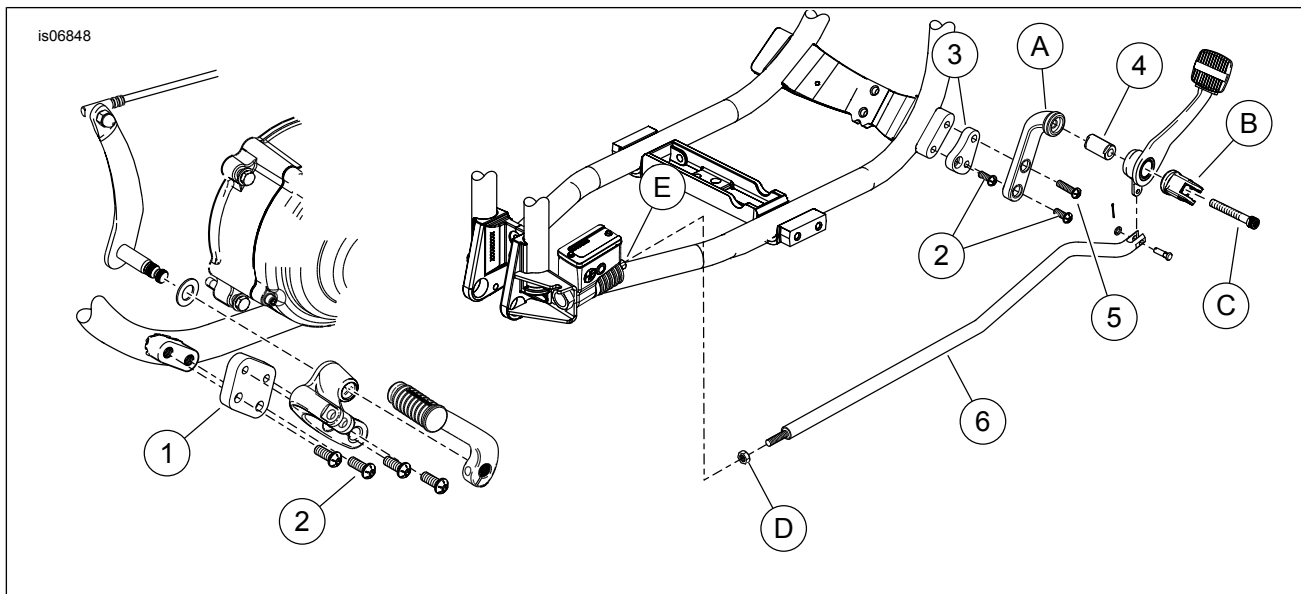

Figure 1. Service Parts: Reduced Reach Conversion Kit
See Figure 1 and Table 1.
See Figure 1. The reduced reach plate (1) is installed between the shifter bracket and frame.
3. Position the reduced reach plate (1) on the frame where the shifter bracket was mounted with the tapped holes toward the rear and the counter bores facing out. Secure using two **new** screws (2) and tighten to 41–47 N·m (30–35 ft-lbs).
4. Install the shifter bracket onto the reduced reach plate using two **new** screws (2). Tighten to 41–47 N·m (30–35 ft-lbs).
2. See Figure 1. Loosen the brake rod jam nut (D) at the rear brake master cylinder.